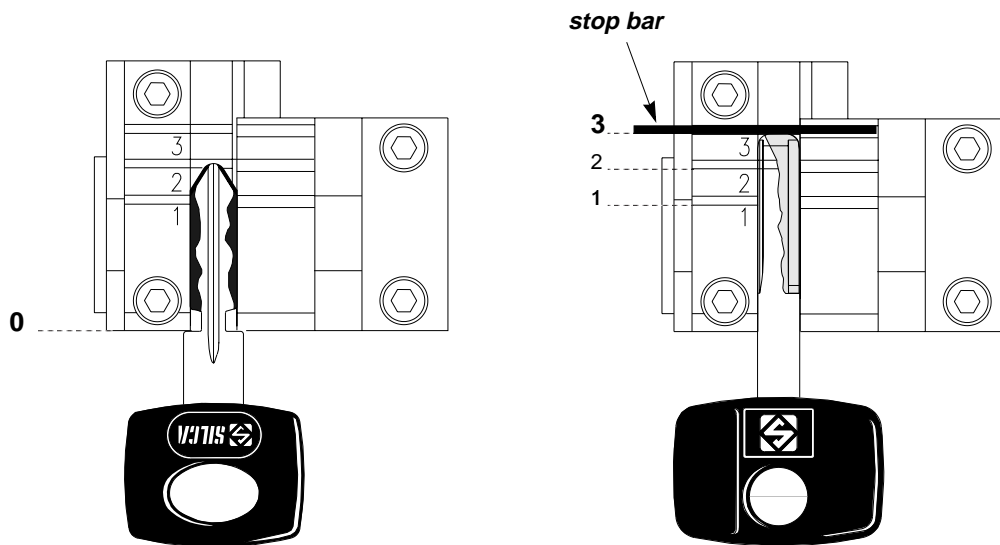

Fig. 16
- 0: for keys with rear stop (fig. 16).
- 1-2-3: for keys with tip stop (fig. 16)